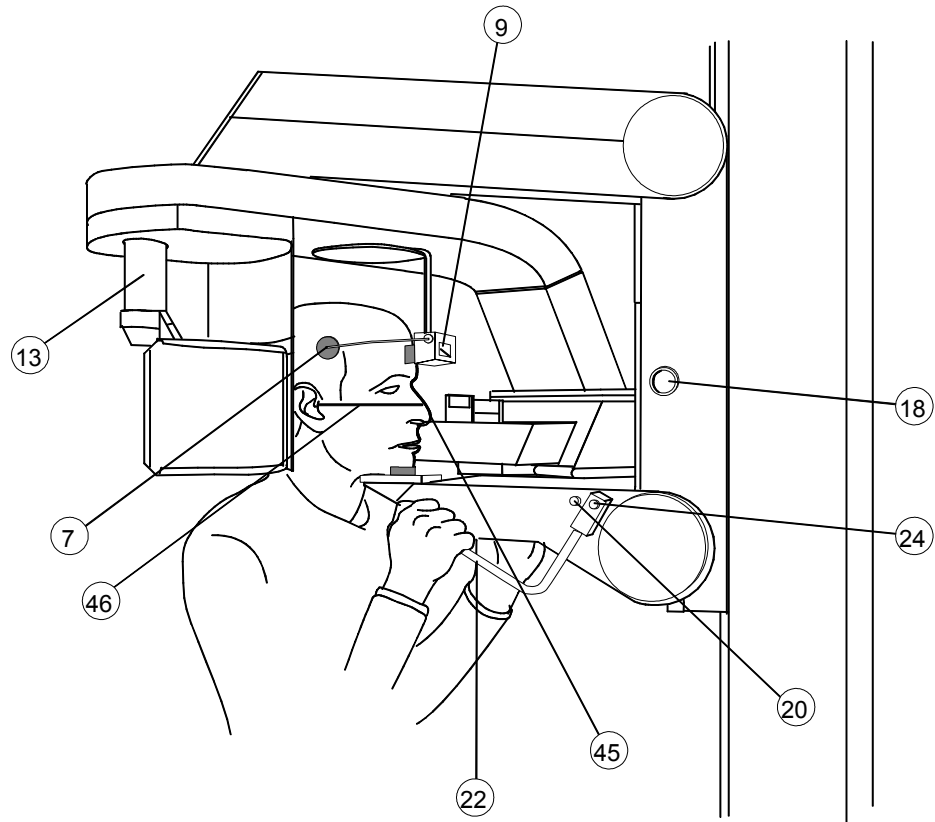

Figure 4: TMJ1 position
6.3.1.3 Preparing the patient (refer to Figure 4)